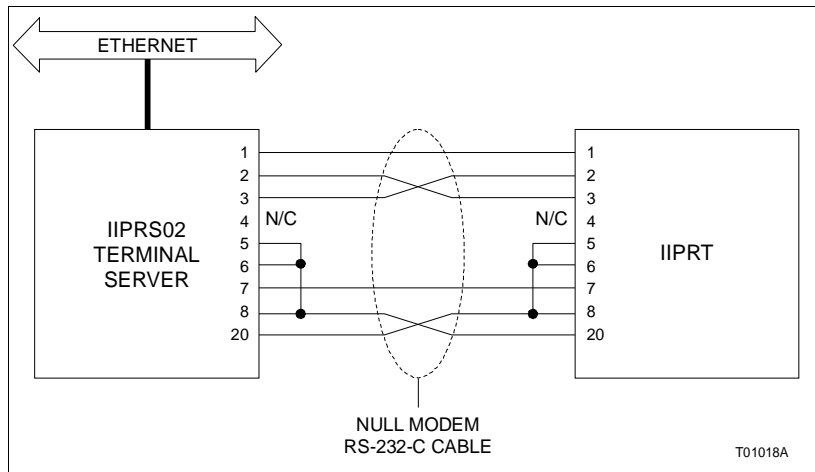

Figure PR41-1. Printer Cable Configuration
- 3. Connect one end of the printer cable to the DB-25 serial connector of the printer (Fig. PR41-1).